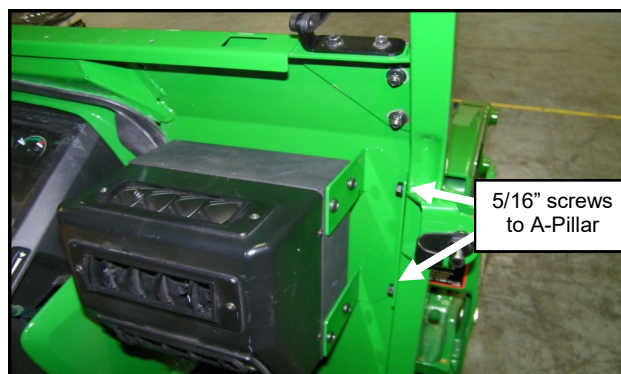

Fig. 2.2 (Install Heater)
2.2 Remove bolts from location shown in figure 2.2 and attach the heater bracket to the right A-Pillar with the bolts.